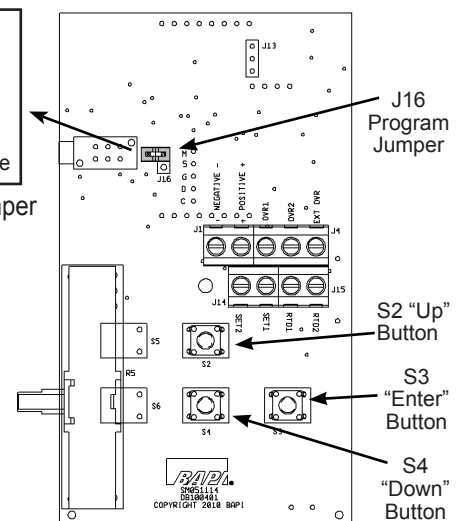

Fig. 12: Setup Button Location
The unit is shipped ready to install per the order and does not requires any special setup or programming. The following Setup or Program Menu Changes are available if the installer decides to change the factory settings. The unit must have a display to make these adjustments. The menu selection buttons are on the back of the board as shown in Fig 12. The parameters available for field configuration are listed below on the next page.
2. Use the Up and Down buttons on the back of the circuit board (Fig 12) to advance to the parameter to adjust. (Moves up or down from page to page or from setting to setting.)
3. Use the “Enter” button on the back of the circuit board (Fig 12) to select the menu parameter. This selects the currently displayed menu or selects the new parameter and stores it into memory. You can adjust and quit (remove J16 jumper) any time during this procedure. Be sure to press the Enter button to store your selection or it will not be saved.